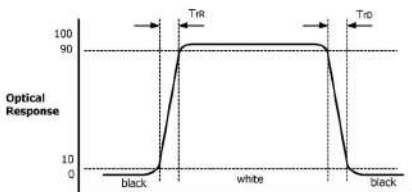

FIG. 3. Response Time
4. Response time is the time required for the display to transition from black to white (Rise Time, T_{RP}) and from white to black (Decay Time, T_{PD}). For additional information see FIG 3.